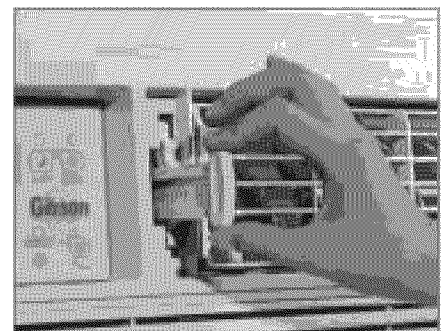

Fig. 3 (VENT)
- Exchange air from the room and draws fresh air into the room - Vent and Exhaust Open (see Fig. 3)